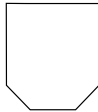

Figure 50: Metallic Test Tank
- Prepare a transparent Metallic Test Tank as shown in the following Figure 50.
- Prepare a transparent Metallic Test Tank as shown in the Figure 50.